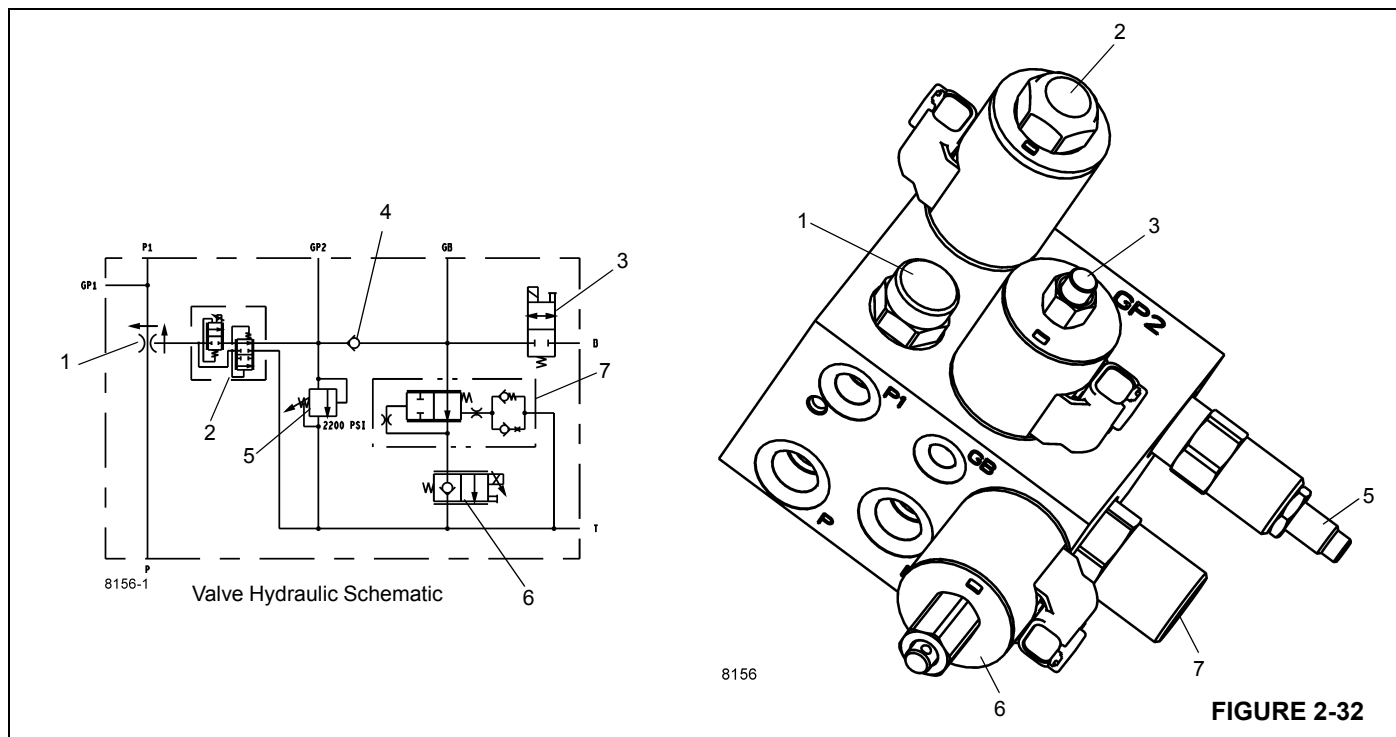

FIGURE 2-32
The Telescope Fill Tube Control Valve Manifold, located on the turntable, is controlled by the RCL. The Telescope Fill Tube Control Valve Manifold prevents the first stage (boom tele sections 2, 3, and 4) from moving when the second stage (tele section 1) is extending or retracting by maintaining oil pressure in the fill tube of the first stage. The Telescope Fill Tube Control Valve Manifold prevents the first stage from retracting as the second stage extends by first diverting oil flow it receives from the Brake Charge and CAC Fan Priority Flow Control Valve to the pressure port of the Dual Accumulator Charge Valve Manifold by way of a 4.0 gpm priority flow valve (1, Figure 2-32). Excess oil flow from the flow valve goes to a spring offset, solenoid controlled, three-way directional control valve (2) that diverts oil to tank when de-energized. Only when the second stage is extending will the RCL energize the directional control valve, which diverts oil to the first stage. This flow of oil to the